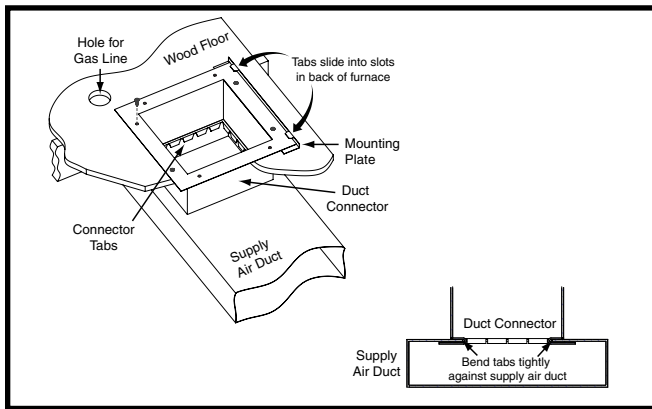

Figure 11. Finger Tabbed Duct Connector
2. Mark the cut-out area on the supply air duct by tracing around the connector tabs of the duct connector. See Figure 11 (page 16).
5. Install the mounting plate (Figure 11) under the back side of the duct connector. Align the screw holes in both components.
7. Bend the connector tabs on the bottom of the duct connector upwards and as tight as possible against the supply air duct. See Figure 11.